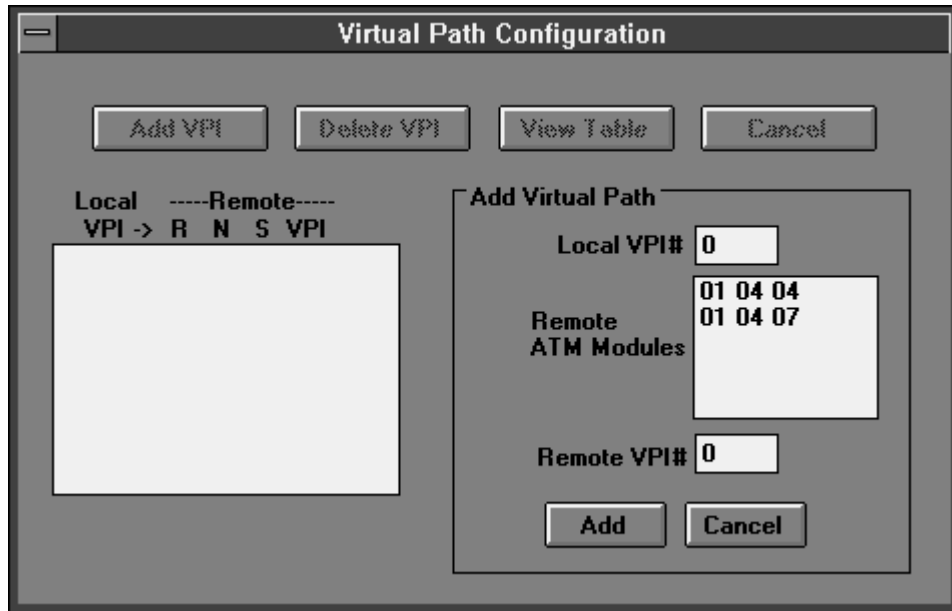

Figure 3-30. Virtual Path Configuration (ATM Modules)
1. Select Add VPI. The Add VPI, Delete VPI, View Table, and Cancel fields gray out, and the Add Virtual Path section highlights (refer to Figure 3-30).